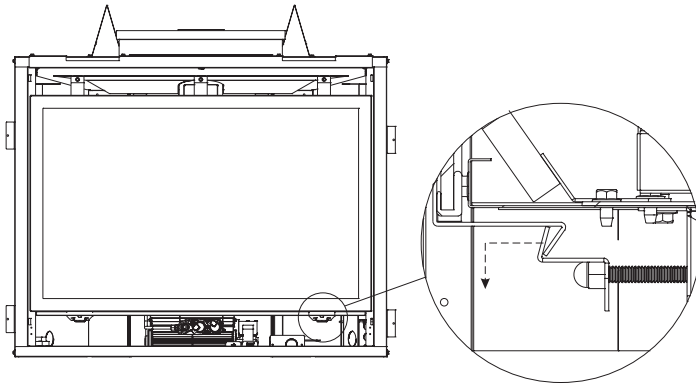

Figure 96
2. Disengage the two glass latches. Pull out and down on latch and then release. See Figure 96.